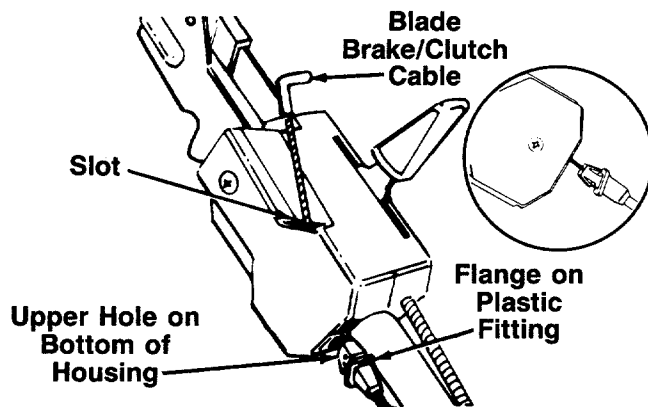

FIGURE 3.
2. Place end of cable into the upper hole on the bottom of the control housing, and through the slot on the side of the housing as shown. The angle of the plastic flange must be positioned downward as shown in figure 3. Be careful not to bend or kink the cable at any time.